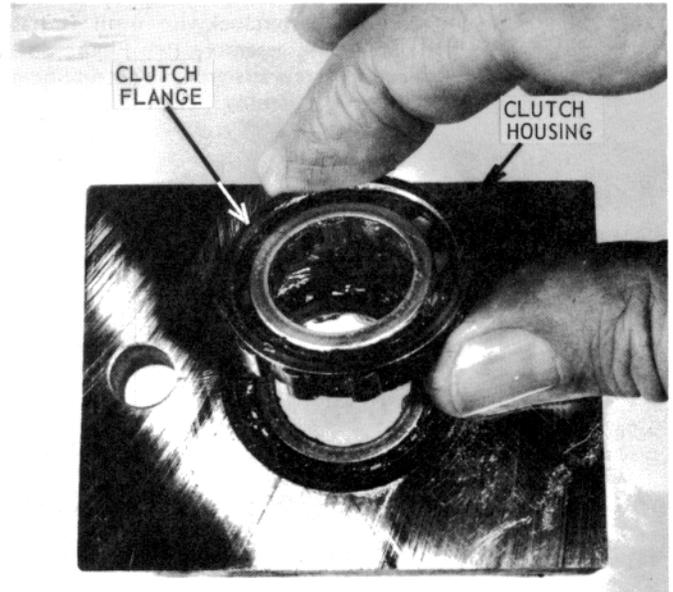

Figure 40 – Mainshaft Clutches and Clutch Housing
- 1.2.16 External clutch flanges must be on the shiny milled side of the mainshaft clutch housing and must face up (see Figure 40).